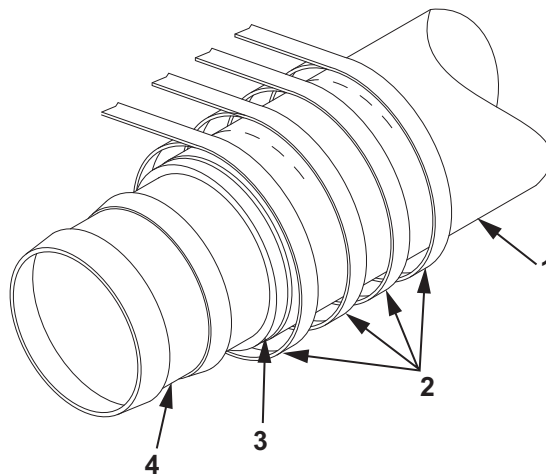

Figure 8. Hose Assembly Repair.
21. Place four clamps (Figure 8, Item 2) loosely on the hose assembly (Figure 8, Item 1) and move them back a few inches for later installation.
22. Install the hose assembly (Figure 8, Item 1) on the hose splice (Figure 8, Item 4) until it is flush with the machined stop (Figure 8, Item 3) in the center of the hose splice (Figure 8, Item 4).
23. Position all four clamps (Figure 8, Item 2) over the hose splice (Figure 8, Item 4) area.